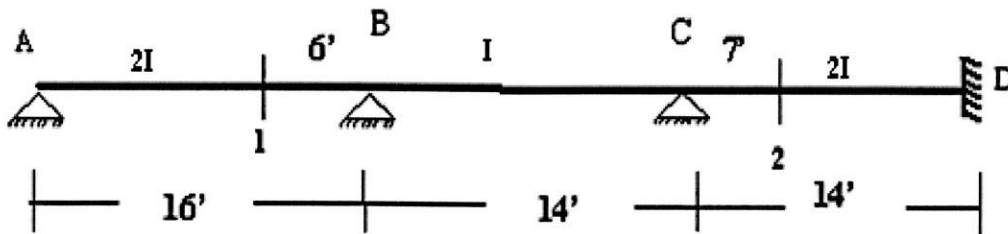

Figure 13
- 13 Determine the ordinate of **Influence Line** at location 1 and 2 for Moment at 'B' for the continuous beam shown in **Figure 13**.
- 14 Determine the ordinate of **Influence Line** at location 1 and 2 for reaction at 'A' for the continuous beam shown in **Figure 13**.